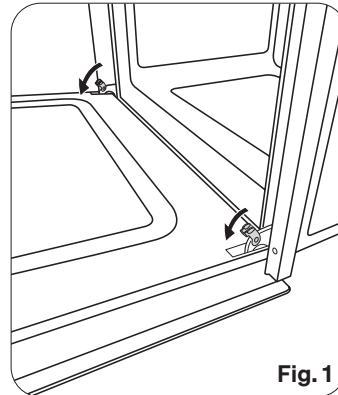

Fig. 1
- Open the door to the full extent. Unlock the locking clips on both the left and right hinges (Fig. 1).